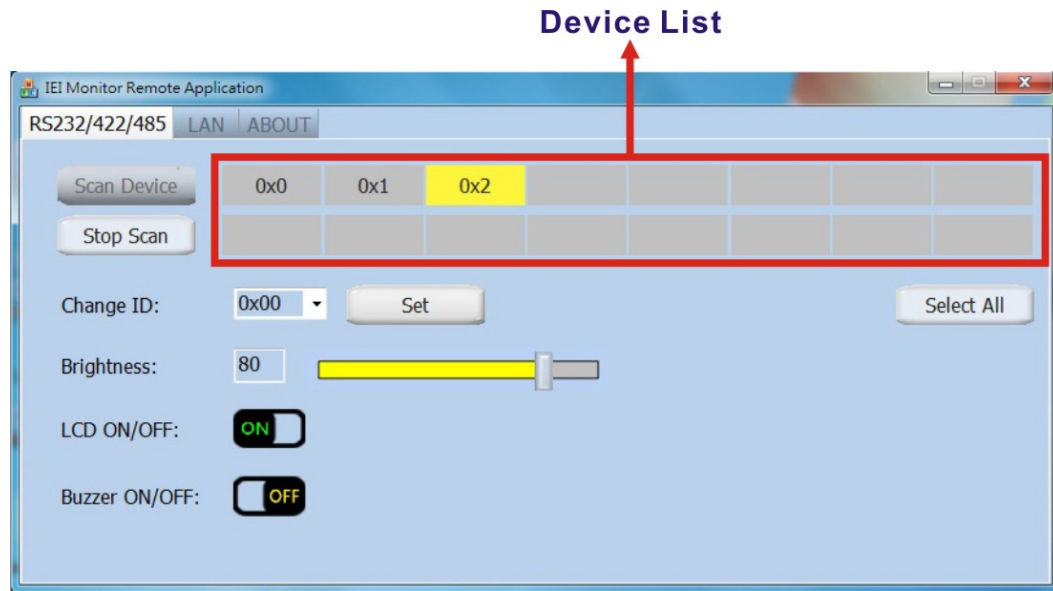

Figure 5-3: IEI Monitor Remote AP – RS-422/485
Step 2: Click the **RS232/422/485** tab. The ID of the connected marine monitors should be displayed on the device list (**Figure 5-3**). If the device ID is not being displayed, click **Scan Device** to detect the connected marine monitor again.